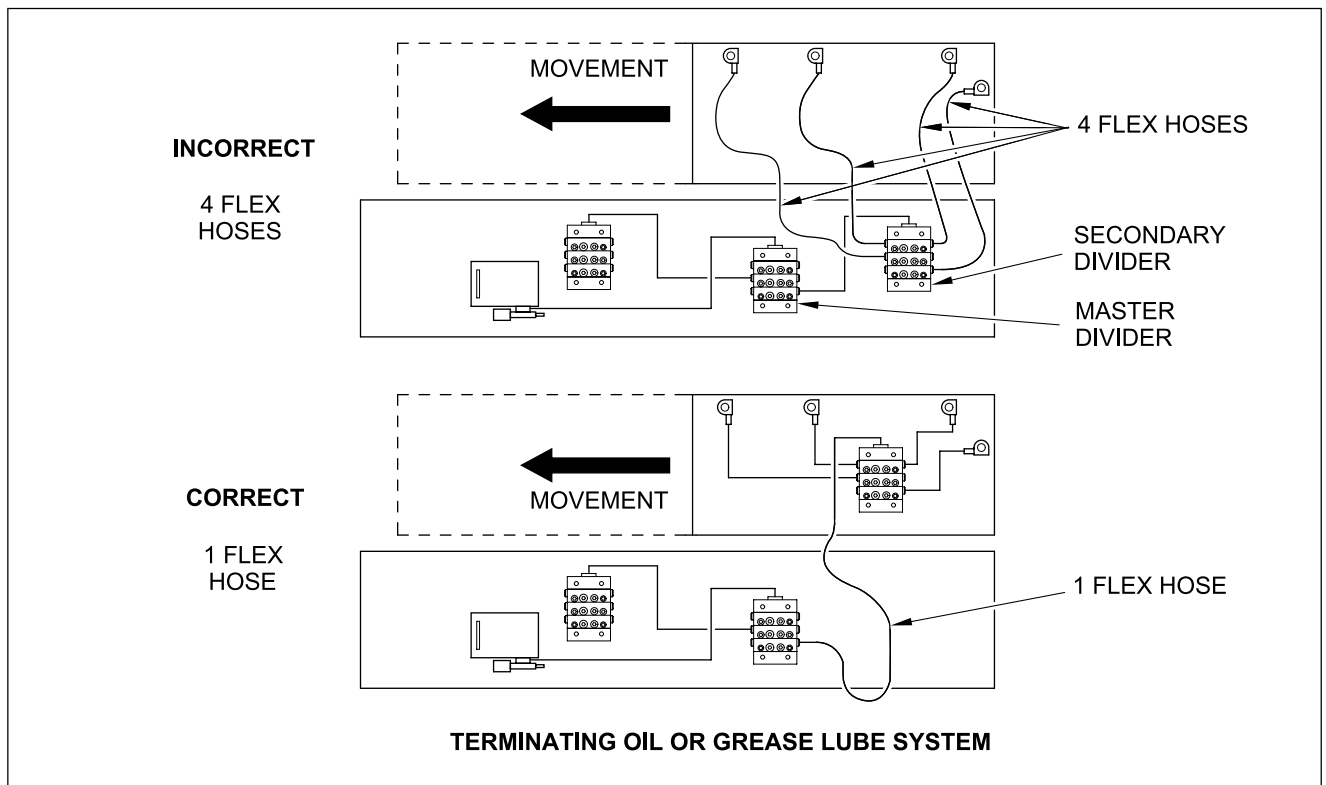

Figure 2
6. If lubrication points are located on a portion of the equipment that is moving, the divider valves should be located to minimize the number of connecting hoses that are required to be moving and flexing. See Figure 2.